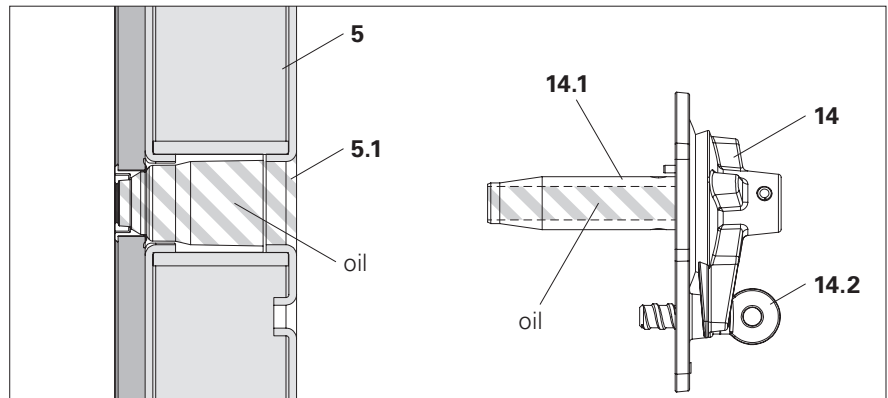

Fig. A6.07a
1. Oil the inside of the tie point with seal (5.1) in Panel MX-2 (5) and sleeve (14.1) of the Wingnut MX18 (14). (Fig. A6.07a)
2. Insert the sleeve of the Wingnut MX18 (14.1) into Panel MX-2 (5) so that the Wingnut MX18 (14) can be fixed in place.